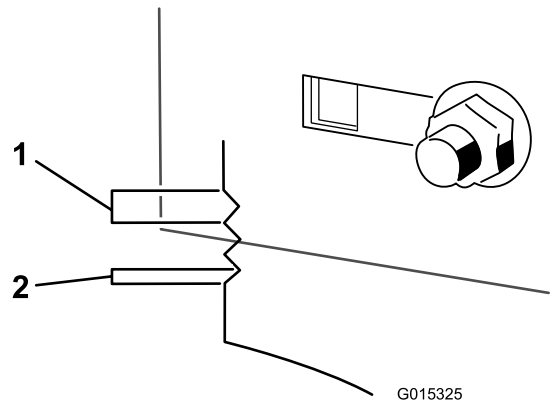

Figure 55
- Use the notches on the welded bracket to measure the amount of adjustment. Each notch surface is equivalent to 0.25 inch, while a single side is 0.125 inch (Figure 55). Adjust the height of the mower deck to the desired height.